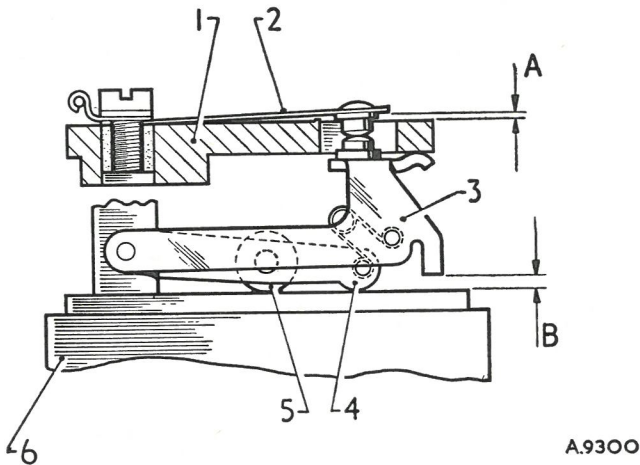

Fig. D.5
of the pedestal (A) (Fig. D.5) with a feeler gauge, bending the stop finger beneath the pedestal, if necessary, to obtain a lift of $.035 \pm .005$ in. ($.9 \pm .13$ mm.).
- (34) Check the gap between rocker finger and coil housing (B) (Fig. D.5) with a feeler gauge, bending the stop finger, if necessary, to obtain a gap of $.070 \pm .005$ in. ($1.8 \pm .13$ mm.).